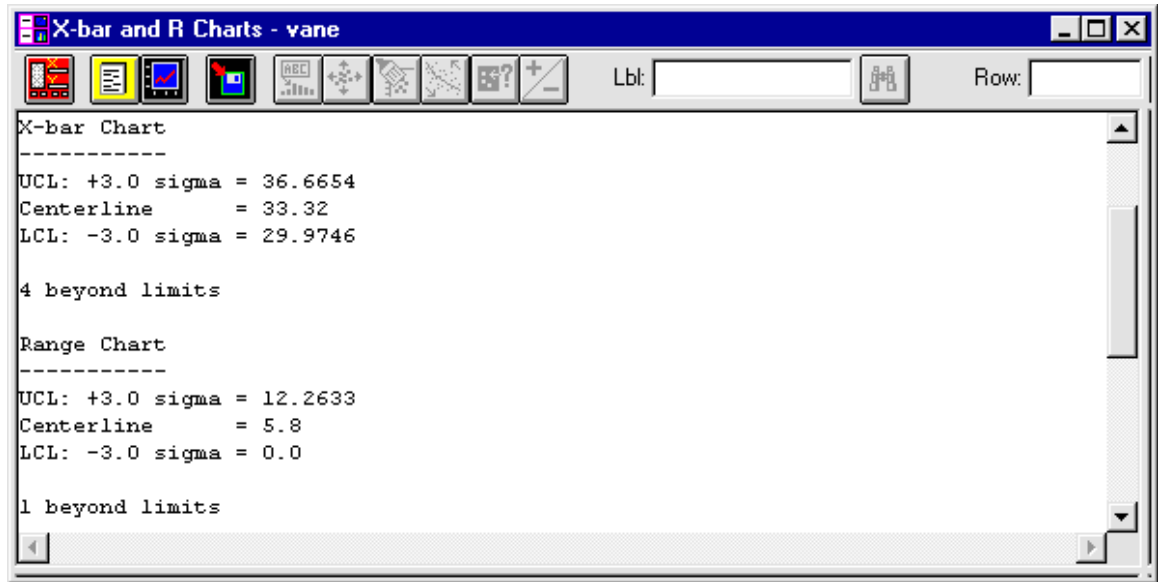

Figure 1-2. Analysis Summary
4. Click OK to display the Analysis Summary and X-bar Chart in the Analysis window. Maximize the Analysis Summary (see Figure 1-2).